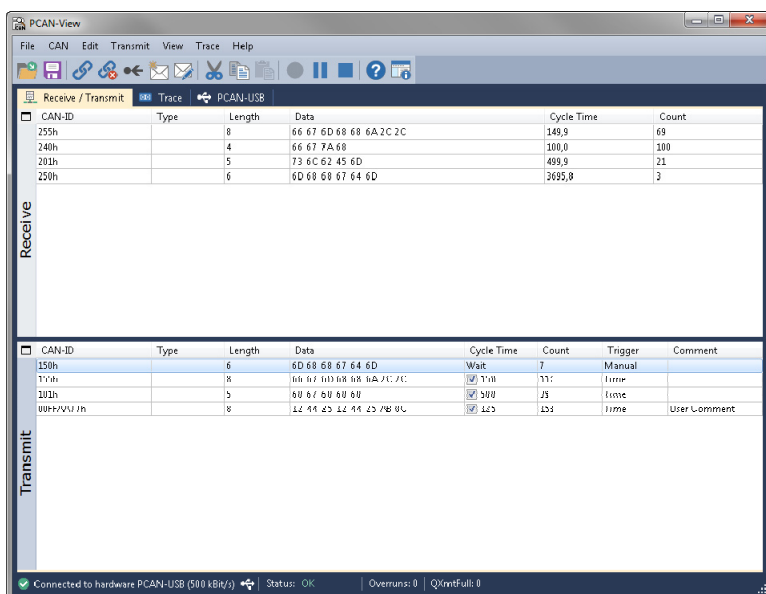

Figure 7: Receive/Transmit tab
6. Finally, confirm the settings in the dialog box with **OK**. The main window of PCAN-View appears (see Figure 7).